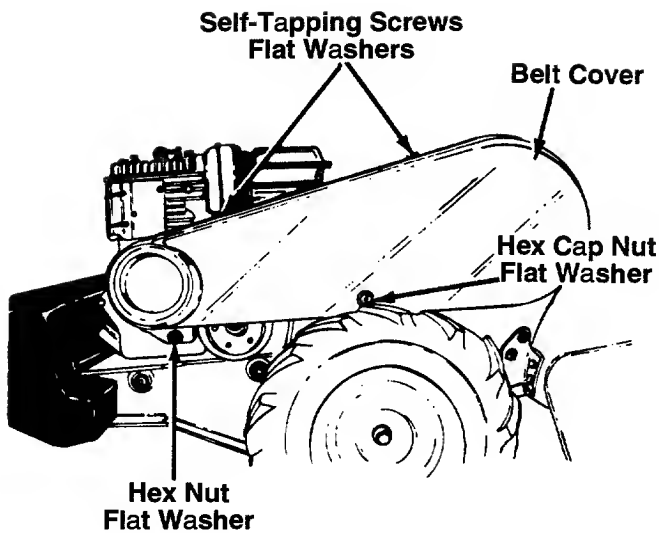

FIGURE 6.
16. Remove the belt cover from the left side of the tiller as follows. See figure 6.